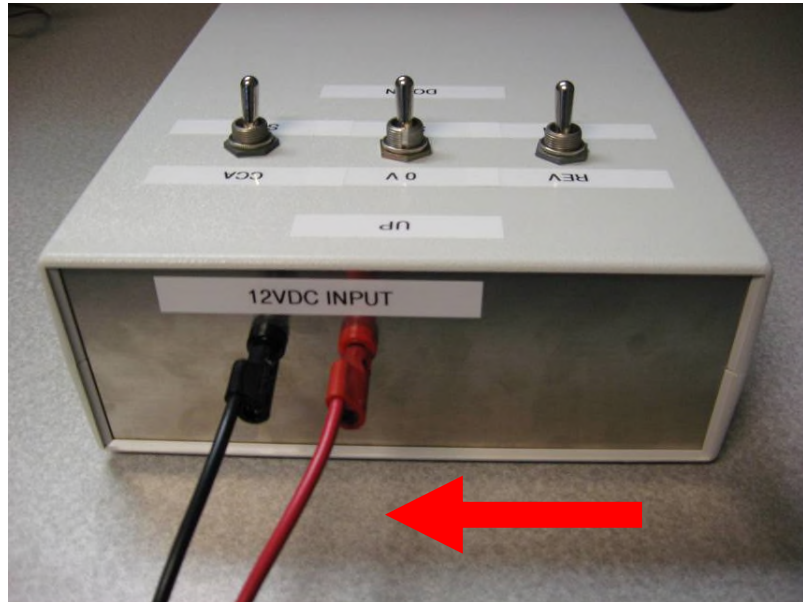

Figure 1
1. Connect test fixture to 12 Volts DC, minimum current 2 Amps. See figure 1